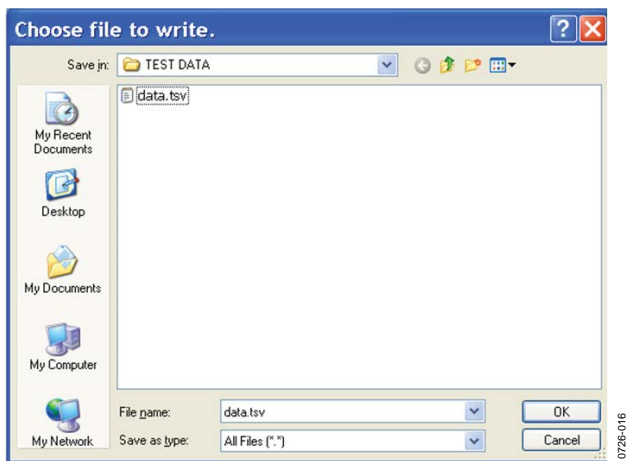

Figure 16. Load File Dialog Box:
- **Load data:** load previously captured data or example files in .tsv (tab separated values) format for analysis (see Figure 16). (The default location for example files is C:\Program Files\Analog Devices\AD7656-1_57-1_58-1\examples.)